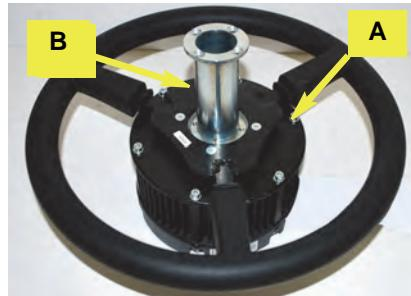

Figure 1a: Installing the shaft adapter
- Place the VSi steering wheel **A** on a clean surface with the wheel facing up. Insert shaft adapter **B** into steering wheel **A** (Figure 1a).